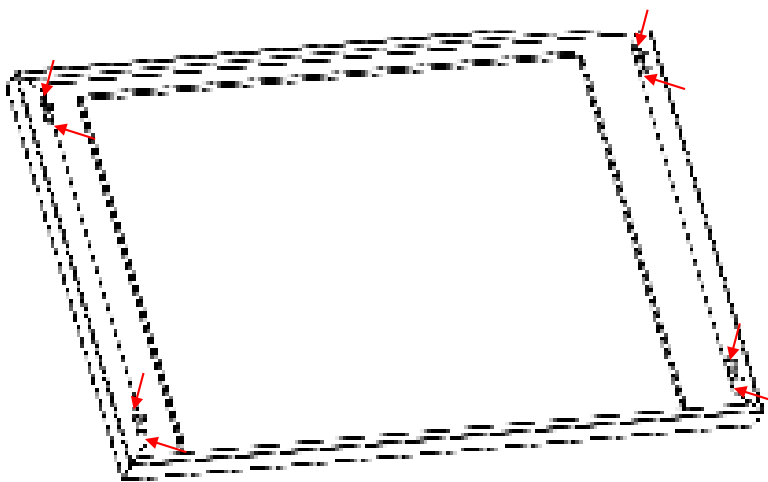

Figure 6
3. Lay the outer trim face down and, using eight of the #2 screws, install the four buckles on the corresponding mounting holes around the trim kit (see *Figure 6*). Make sure to use the same series of mounting holes on each corner, depending on your cabinet cutout (see *Figure 7*).